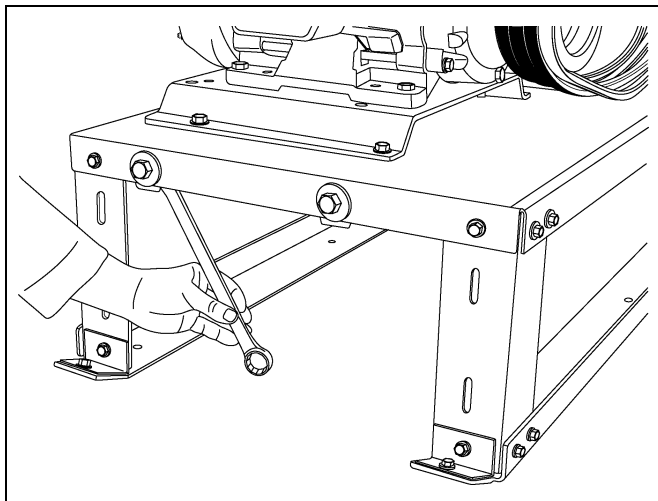

Figure 7H
6. Keeping the motor in proper alignment is necessary and can be accomplished by using an open end wrench to turn the nut on the take-up bolt closest to the rear of the motor. This nut is located behind the flange of the blower base. Adjust if necessary. Tighten the four (4) flange head bolts that secure the motor mounting plate to the blower base. Re-install drive shield. (See Figure 7H.)